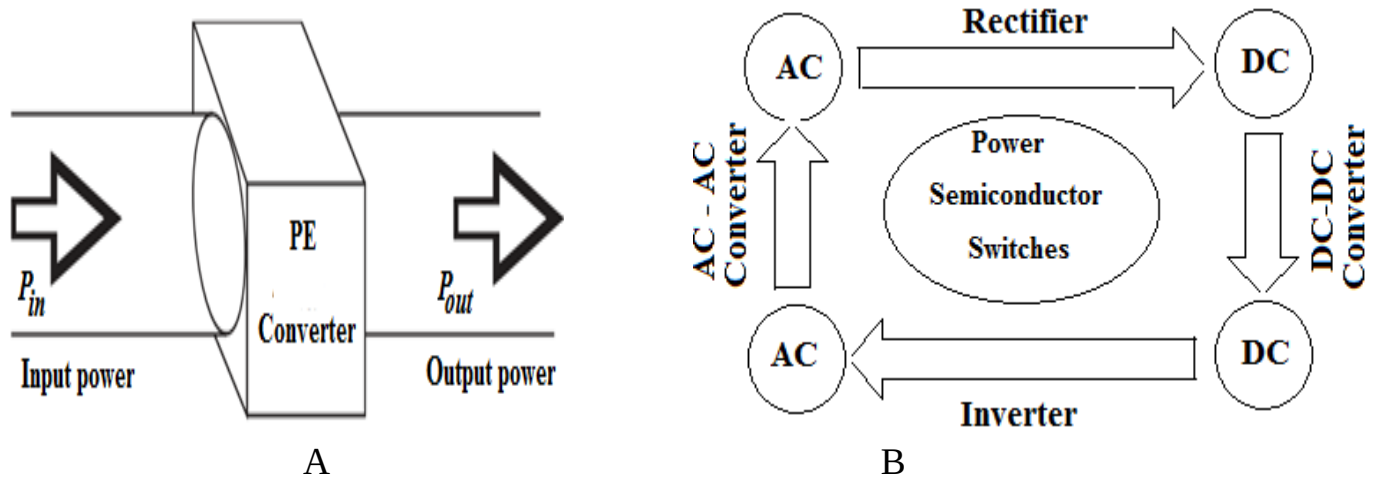

Fig.3 Power processing through power electronics converters
The main fields of applications are in **Energy Processing and Drive Technology**. Power semiconductor devices are interconnected in a variety of ways to form power control units, see Fig.3 (A). These units can be classified in a variety of ways, one of the simplest being to classify them according to their input/output requirements, thus, referring to Fig. 3 (B).